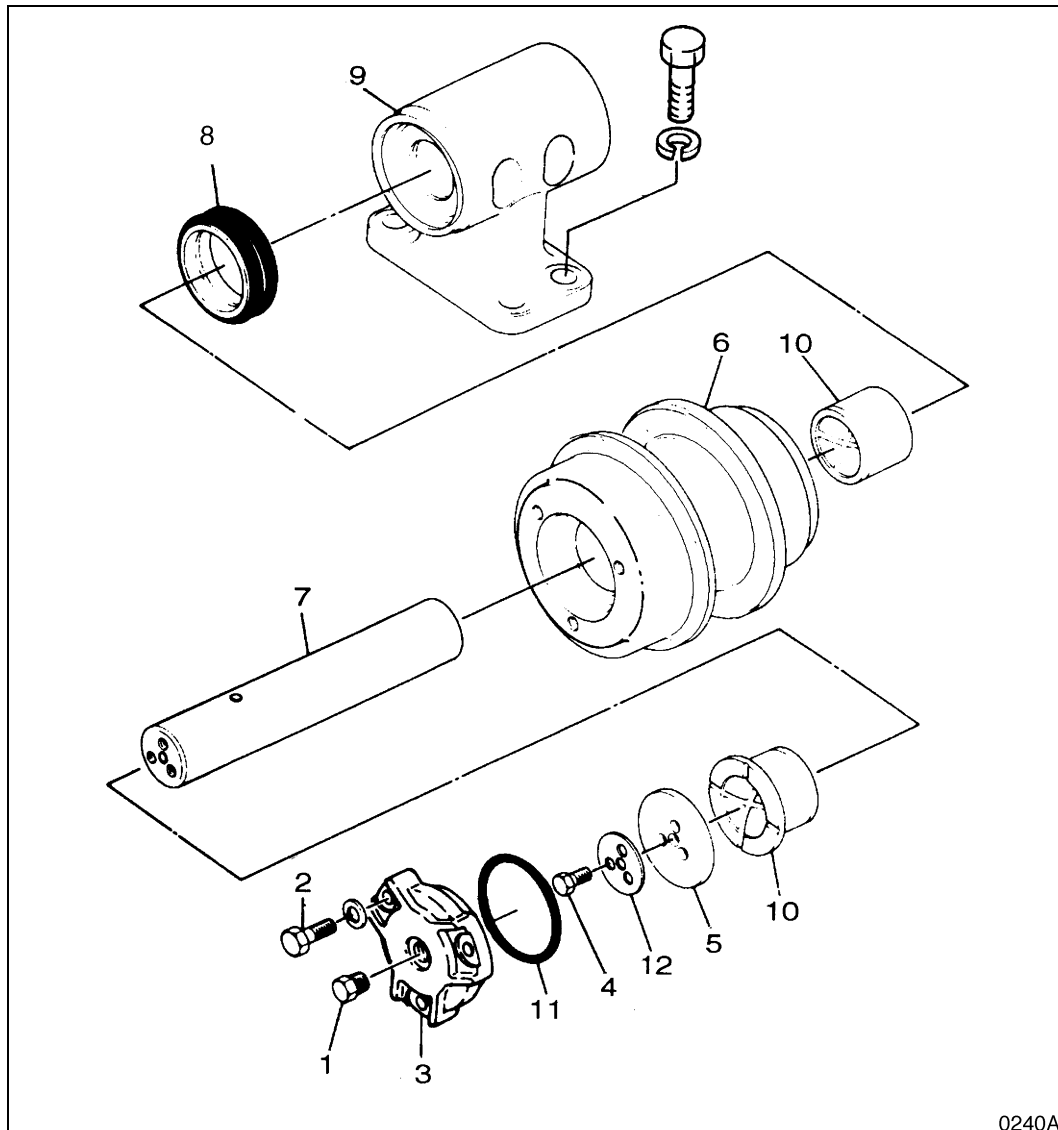
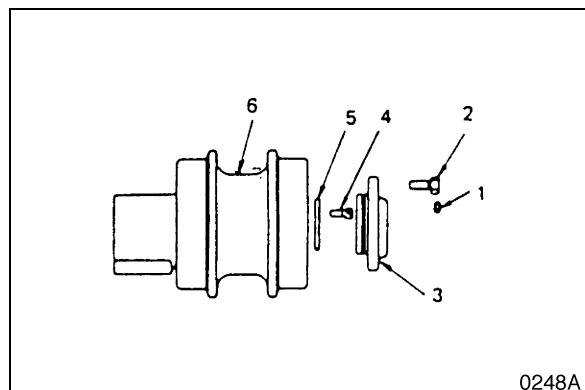

Figure 38
Figure 47
3. Install the axle, washer (5, Figure 47) and bolt (4).
4. Attach group seal (8, Figure 38) to the roller (6, Figure 47) and cover (3).
5. Insert the O-ring (11, Figure 47) to the cover. Attach cover (3) and bolt (2) to the roller.